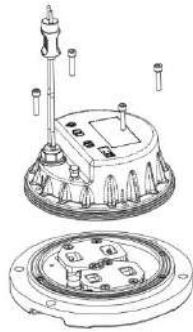

Figure 4-13
- Unplug the connecting cable connector of the LED lamp and circuit board and separate the upper cover and inner cover of the lighting fixtures (Figure 4-13).